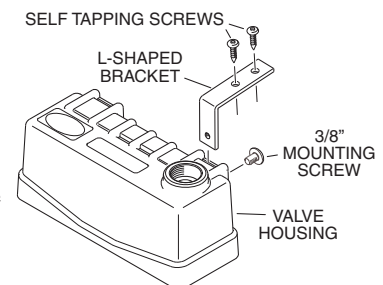

Figure 6
1. Slide both L-shaped brackets into the valve housing as shown (see Figure 6).
5. Attach each L-shaped bracket to the tank rim with two (2) self tapping screws.